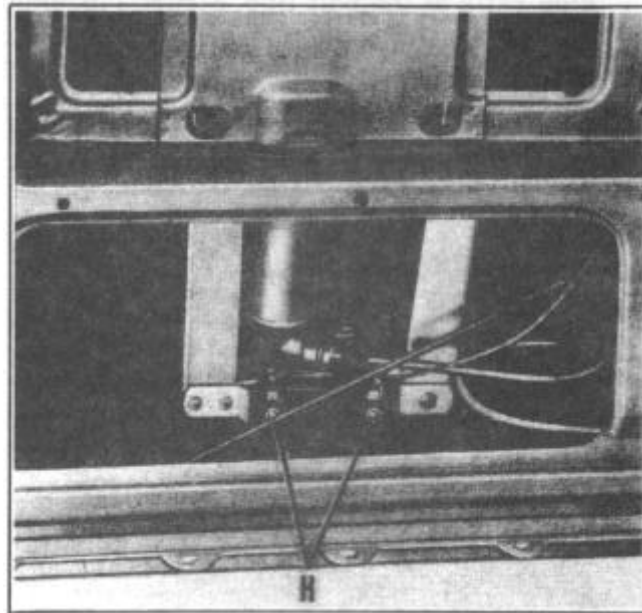

FIGURE 181
4. The hydraulic window regulator mounting is slotted to allow raising, lowering, or tilting forward or rearward of the regulator as required see (H), Figure 181.